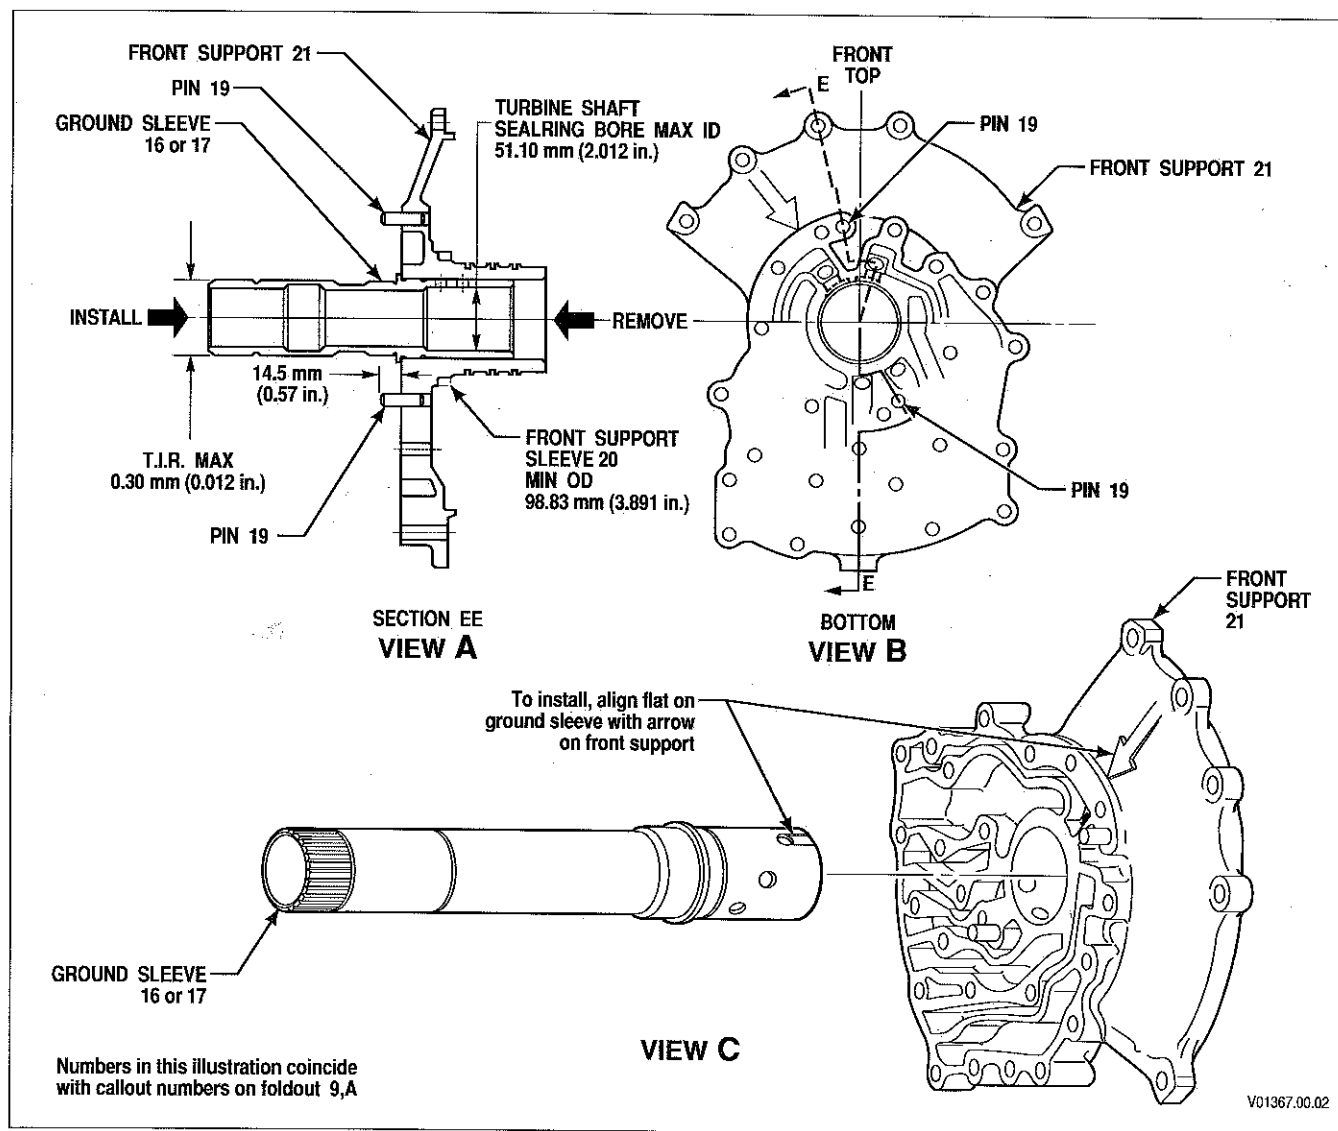

Figure 5-8. Ground Sleeve Removal And Installation
1. If removed, install ground sleeve 16 or 17 (Foldout 9,A and Figure 5-8). Place front
support 21 on press bed. The machined flat at the base of the ground sleeve must align with the cast arrow on the front support (Figure 5-8, View C). Press ground sleeve 16 or 17 into front support 21 to the shoulder. After installation, total runout may not exceed 0.30 mm (0.012 inch).
2. If removed, install dowel pin(s) 19. Press the pin(s) to a height of 14.5 mm (0.57 inch) from the surface (Figure 5-8, View A).